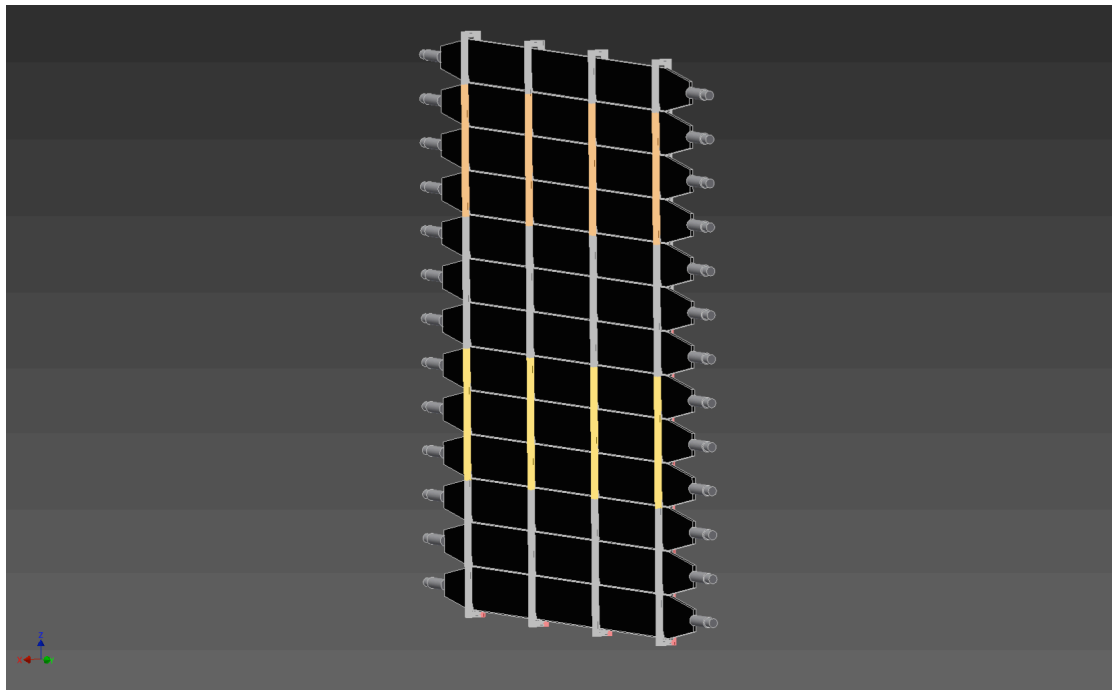
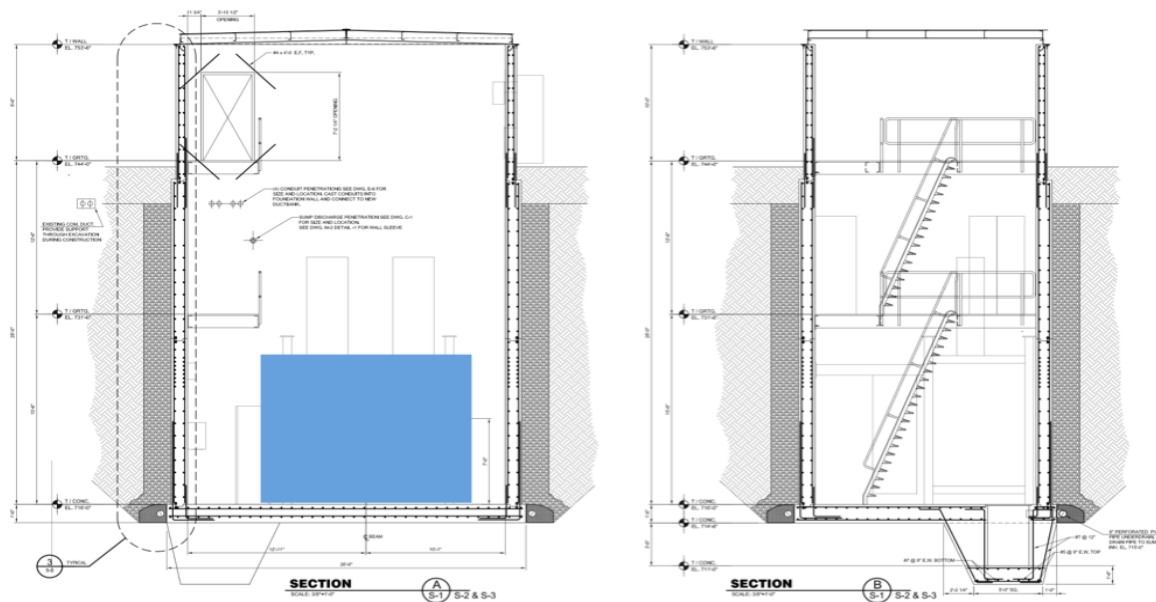
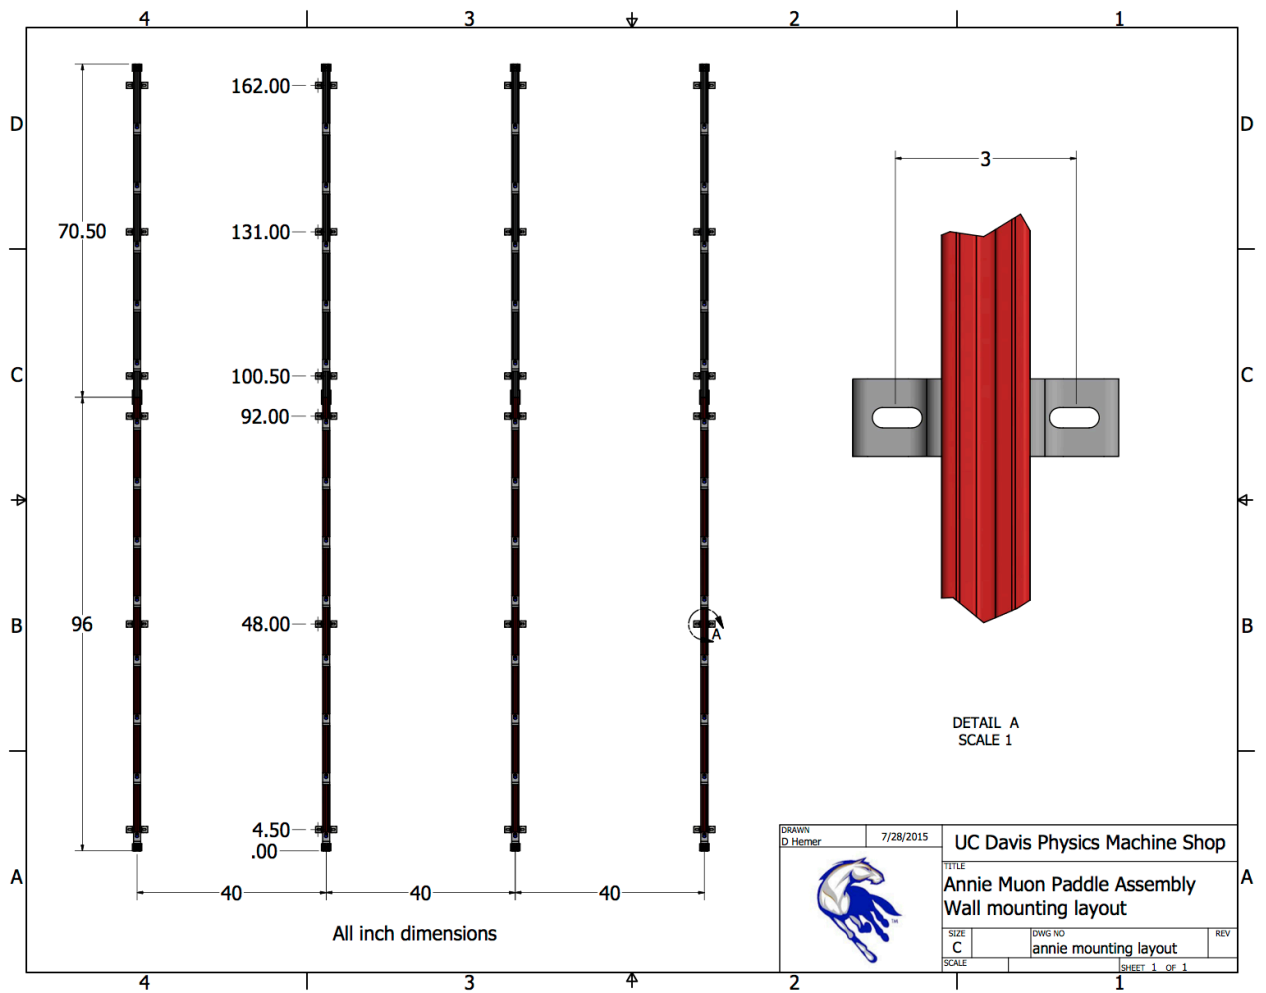

Figure 1 A front view of the ANNIE Front Veto stack showing the 13 horizontal layers.
Figure 2 The position of the veto in the hall.
Figure 3 Hole and bracket positions in the hall.
Description of Veto: Figure 1 shows a drawing of the paddles mounted in 2 stacks, each 13 paddles high. This height is needed to completely cover the target tank. This is the configuration desired for ANNIE. The desired location in the hall is shown in Figure 2. The veto must fit in front of the target tank to be effective. Space limitation is that there is 10" 4" of clearance between the front wall of the hall and the Muon Range Detector (MRD) and this must accommodate a 9' diameter tank. Therefore the veto must fit into a space less than 1' in width.
The basic mounting structure will be made using extruded aluminum strut (15 series Faztek). See Figure 4. This strut has a yield strength of 25,000 psi, which is well below the expected load of 500 lbs per vertical rail (this includes weight of strut and paddles). Figure 1 shows drawings of the bolt-together structure. The vertical rails must be in two pieces since the largest commercial length sold is 96". The outer retaining struts are in sections to allow dropping in paddles in 3 horizontal layers at a time. The paddles rest on custom shaped aluminum slats bolted to the struts (see figure 3). Each rail has one slat, so each slat must support only 30 lbs.
2. Install moly bolts in the following pattern: See Figure 3